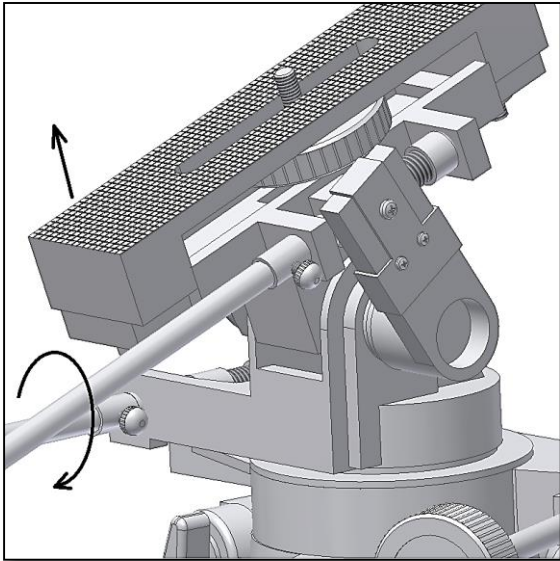

Figure 14. Precision adjustment for the altitude axis.
2.2. Fine Adjustments. The azimuth and altitude handles are used to make small precision adjustments in both axis – please check figure 14 and 15. Rotating the handles clockwise makes the mount turn clockwise on both axis. **Telescope placement.** A small telescope tube can be used with the AZ-3 mount. Short catadioptrics or a refractor can be used. The telescope must have a $\frac{1}{4}$ "-20 female thread on its base. The telescope fixing knob is used to fix the telescope on the telescope platform. Rotate the knob clockwise to tighten firmly.